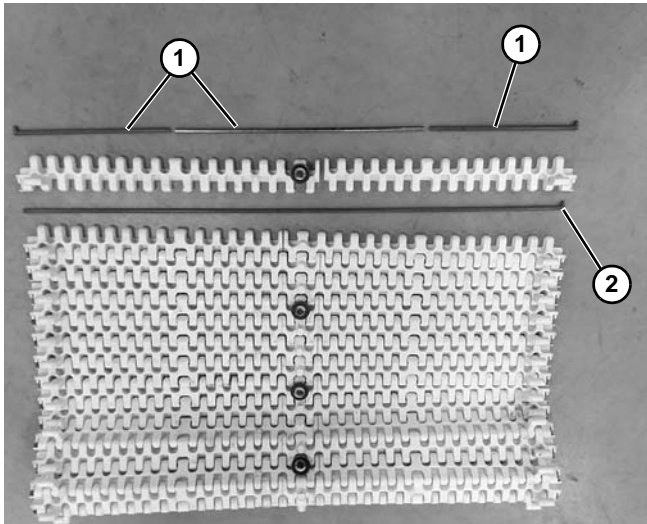

Figure 30
On 610 mm wide conveyors, DO NOT remove rods located at the bearing. These links are made up of 3 short rods (**Figure 30, item 1**), not a single piece rod (**Figure 30, item 2**).